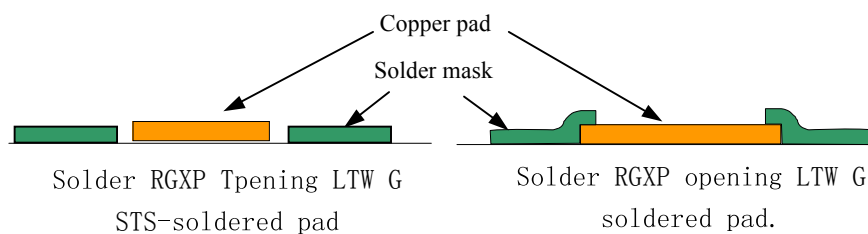

Figure 39: Solder mask openings for copper pads
- [60] Solder mask design for copper pads should follow figure 39.